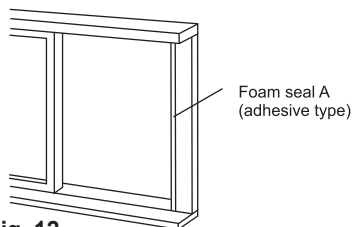

Fig. 12
1. Cut the foam seal (adhesive type) to the proper length and attach it to the window sill. See Fig. 12.